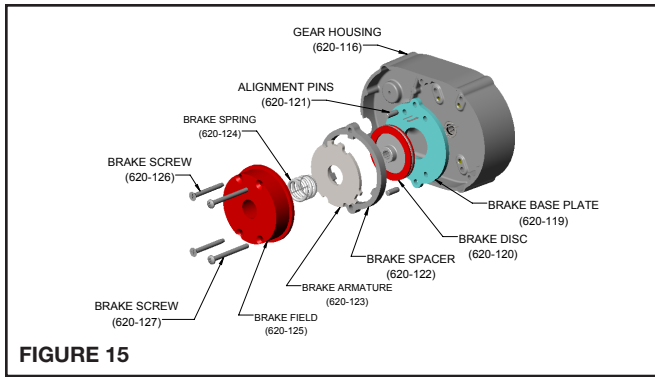

FIGURE 15
1. Refer to Figure 15 and disassemble the brake. Depress and hold the field assembly (125) while removing the four brake screws (126 & 127). The field assembly is under spring pressure and will spring-out if not held. Examine the base plate (119), brake disc (120) and armature (123) for excessive wear, scoring or warpage. Make sure the brake disc is not glazed, the coil firmly fixed in the field (125) and the brake spring (124) is not damaged. Worn, scored, warped, glazed or damaged parts should be replaced before preceding.
2. Refer to Figure 15 and assemble the brake. Depress and hold the field assembly (125), while installing the four brake screws through the brake parts and mount the brake on the gear housing (116). Tighten the four brake screws (126 & 127) to 25 in-lb (2.8 N-m).